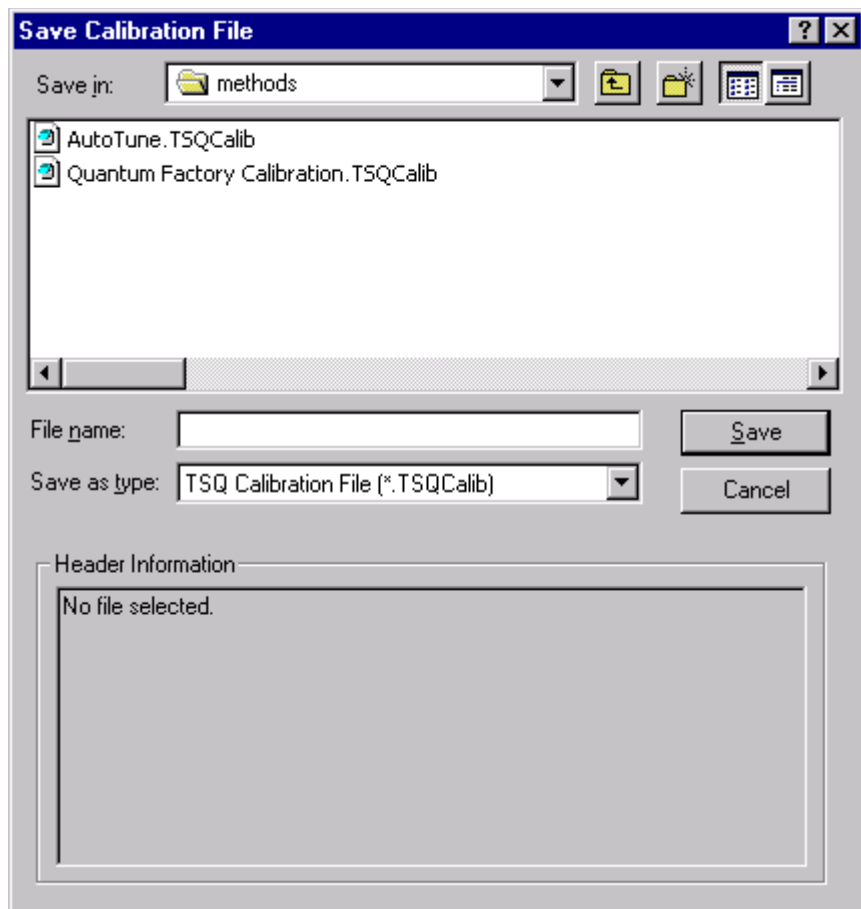

Figure 3-24. Save Calibration File dialog box
- a. Click on **Save Calib. As** to open the Save Calibration File dialog box. See Figure 3-24.